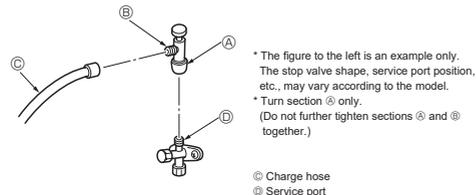

Fig. 4-7
**Precautions when using the charge valve (Fig. 4-7)**